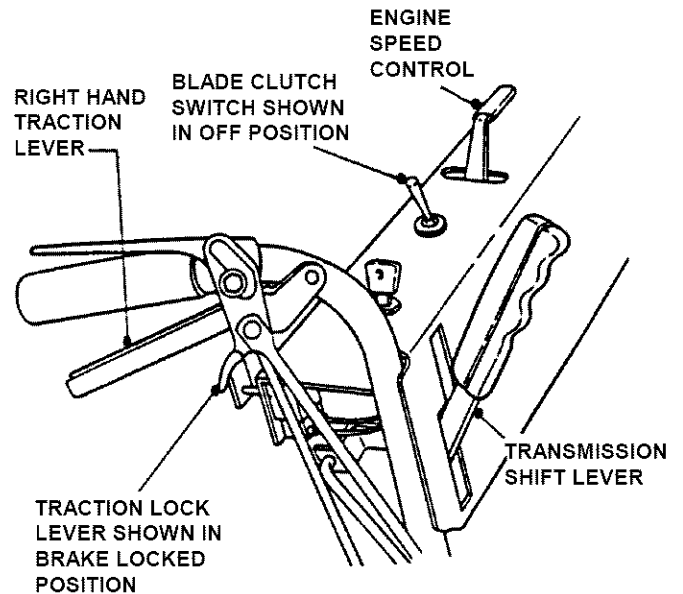

FIGURE 3.2
3. Place Transmission Shift Lever in **NEUTRAL(N)** position. See Figure 3.2.